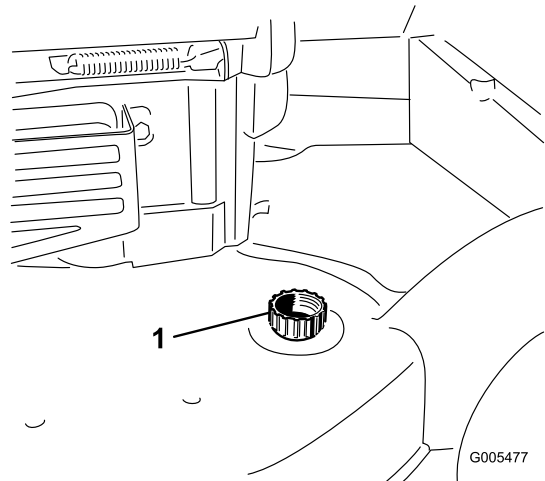

Figure 22
5. Attach a garden hose that is connected to a water supply to the washout port (Figure 22).